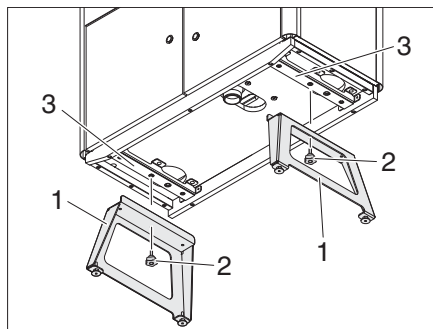

Fig. 60 Mounting the stand feet
- Fixate the stand foot to the crossbeam (Fig. 60,3) by means of the positioning pins.
- Fasten the stand foot (Fig. 60,1) with the star screw (Fig. 60,2).